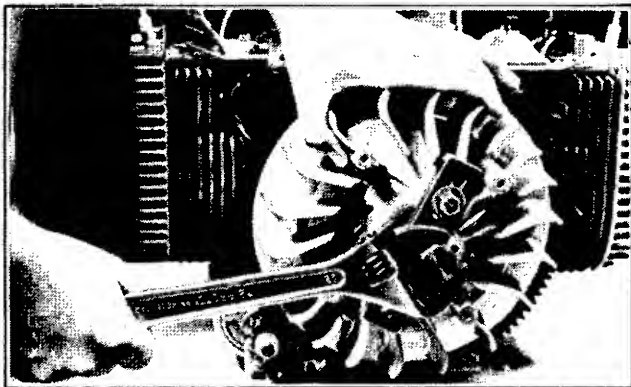

Figure 7-2. Flywheel Removal
12. Use a flywheel puller to remove the flywheel from the crankshaft (see Figure 7-2).